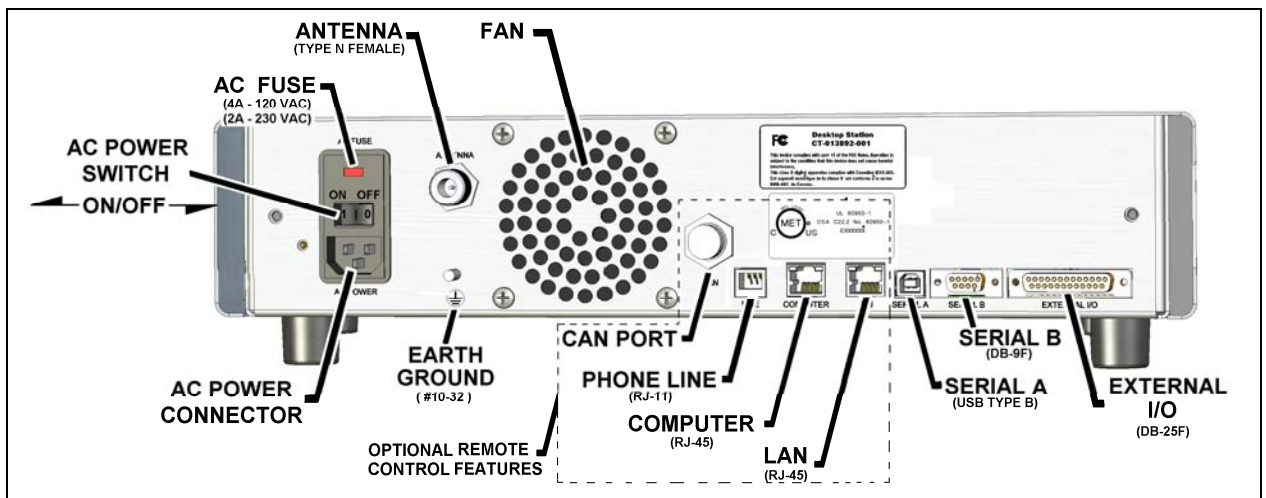

Figure 3-3: Rear Panel Features – Local and Remote Stations
2. On the Control Station's rear panel (refer to Figure 3-3), turn on the main ON/OFF power switch located just above the AC power cord. The front panel Power Indicator should be illuminated green.